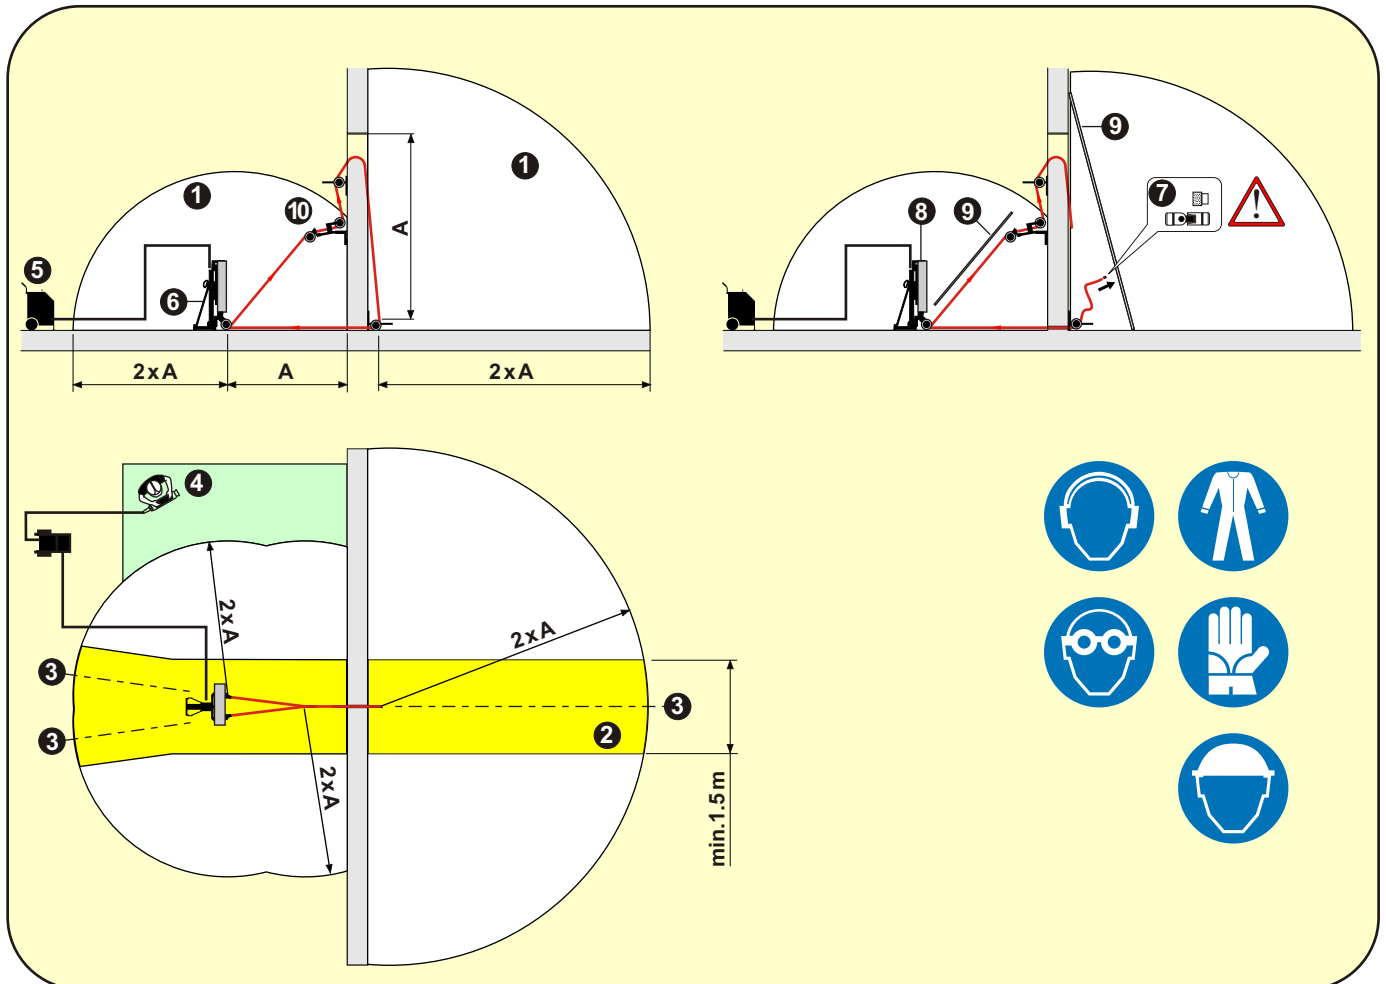

Fig. 1 Hazardous area
(See Fig. 1 / Direct mounting Fig. 2 / Ground-level cut Fig. 3)
- 2.8 NEVER work without wire guards (Fig. 1 No. 9, Fig. 2+3 No. 6)! These guards prevent segments and connectors from flying off in an uncontrolled manner if the diamond wire breaks (Fig. 1 / 2 / 3 No. 7). NEVER stand in the axis of alignment (Fig. 1 No. 3) of the running diamond wire (take note of the hazardous wire alignment area, Fig. 1 No. 2).